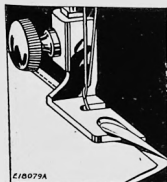

FIG. 37
(1) When making this seam, the garment must first be fitted and the edge of the material trimmed, allowing for about $\frac{1}{8}$ inch seam. Insert the two edges of the material, right sides together, in the hemmer in the same manner as a single hem as shown in Fig. 37. If the material is bulky, place the edge of the upper piece of material about $\frac{1}{8}$ inch to the left of the edge of the under piece.
(2) The free edge of the hemmed seam may be stitched flat to the garment, if desired. To do this, open the work out flat, wrong side up, then insert the hem in the scroll of the hemmer, holding the edge of the hem in position while it is being stitched. If the seam is stitched flat to the garment, one row of stitching is visible on the right side.